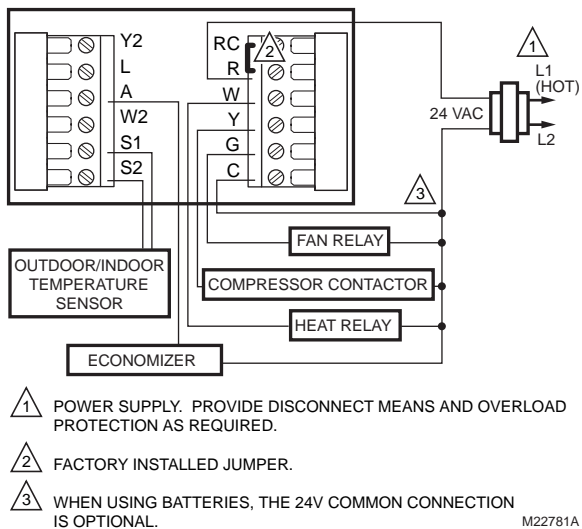

Fig. 12. Typical wiring of single transformer 1H/1C system.
- See Fig. 12 through 22 for wiring diagrams for specific equipment applications.